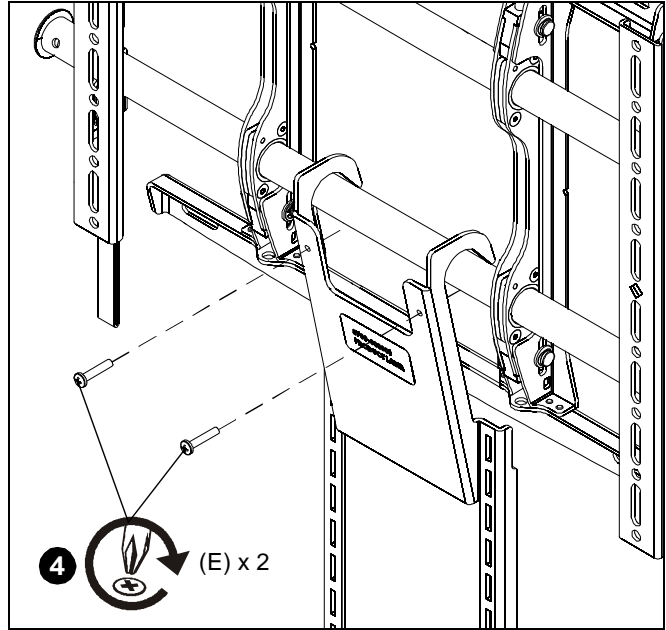

Figure 5
4. Adjust location and secure to wall mount rail using two 10-24 x 1" Phillips pan head screws (E). (See Figure 5)